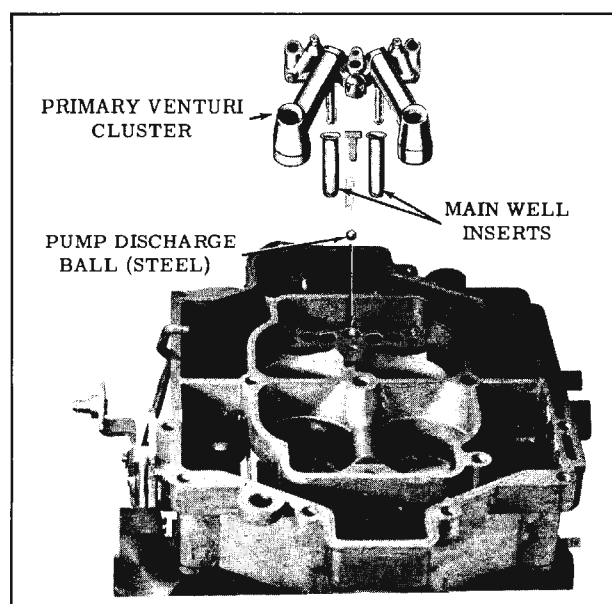

Fig. 9-13 Pump Discharge Spring, Guide and Main Well Inserts
5. Install the pump outlet steel ball, spring, and "T" shaped guide in the center hole of primary venturi cluster. (Fig. 9-13)
6. Install the main well inserts. (Fig. 9-13)